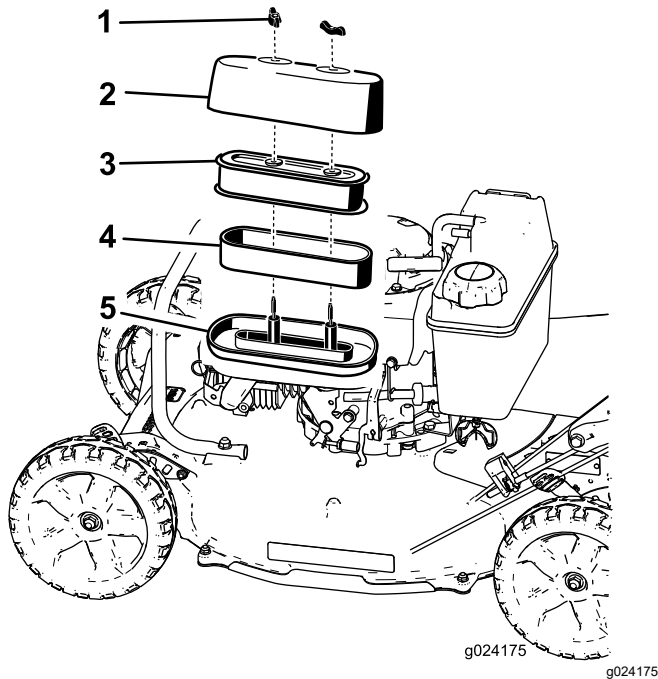

Figure 23
3. Remove the 2 nuts that secure the cover (Figure 23).
5. Remove the foam and paper elements from the base of the air cleaner (Figure 23).
6. Remove the foam element from the paper element (Figure 23).